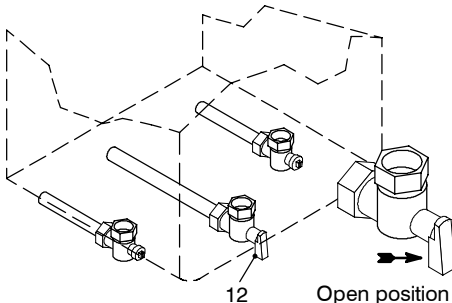

Fig. 7.1
- 2 Open the gas cock 12 (Fig. 7.1) on the appliance and check the gas connector on the appliance for leaks.